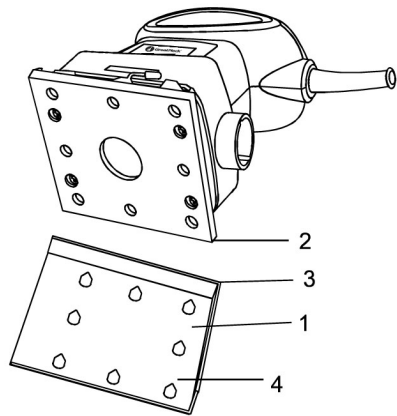

Fig. 5
2. Place the hole punch (1) on a sturdy flat surface (Fig. 5).
3. Align the corner of the sanding pad (2) with the corner of the hole punch (3). This will ensure the holes are punched in the correct location.